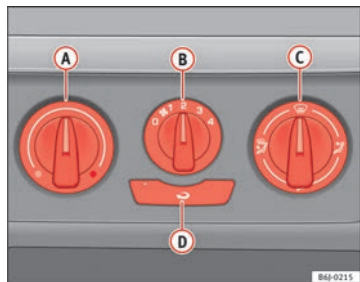

Fig. 99 Heating controls on the dash panel
- Using the controls **A** and **C** and with the switch **B** ⇒ fig. 99 you can adjust the temperature, the air distribution and the blower speed.